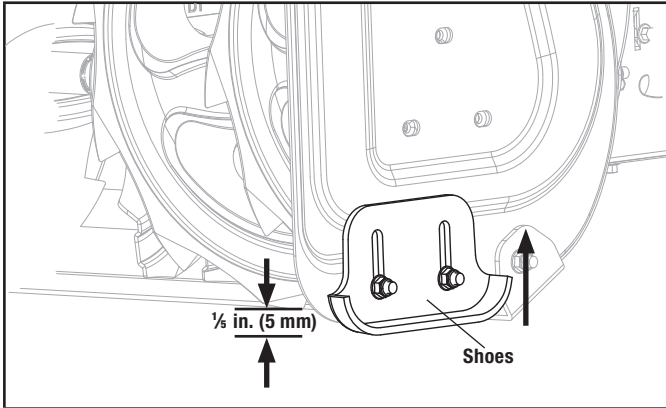

Figure 17A
- On flat ground, e.g. asphalt, the shoes should be adjusted to about $\frac{1}{8}$ in. (5 mm) (the distance from the auger to the ground) (Fig. 17A).